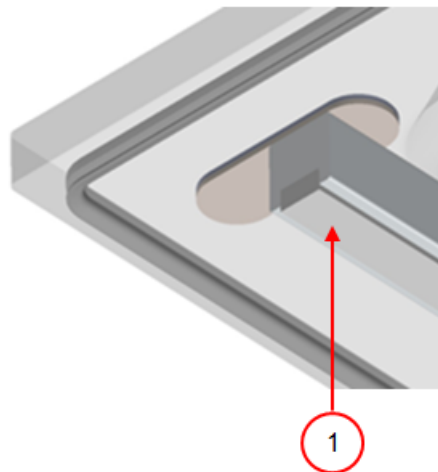

Figure 17: Replacing the Silicone Rubber of the Silicone Holders
1. Pull the old silicone rubber from the holder, see *Figure 17: Replacing the Silicone Rubber of the Silicone Holders* on page 60.